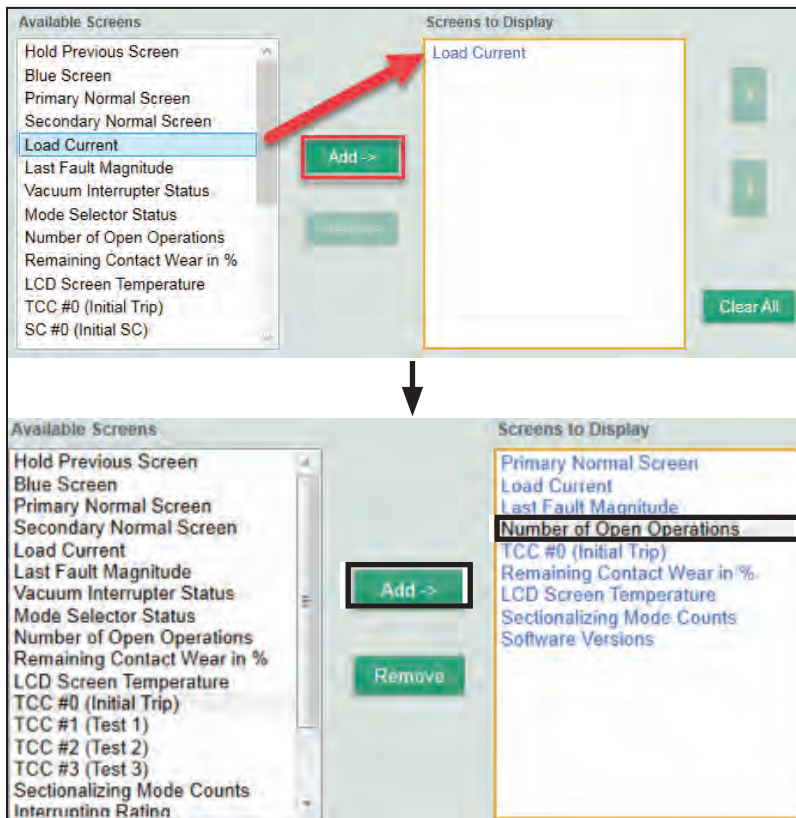

Figure 115. A new item is always added under the highlighted existing item.
**Note:** If an existing item or items in the Screens to Display list is highlighted before adding a new item over from the Available Screens list, the new item will be inserted below the highlighted item in the Screens to Display list. See Figure 115.